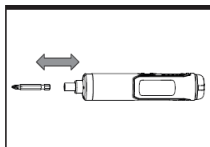

Fig.B1
B) INSTALAR E RETIRAR A BROCA (VER FIG. B1, B2)